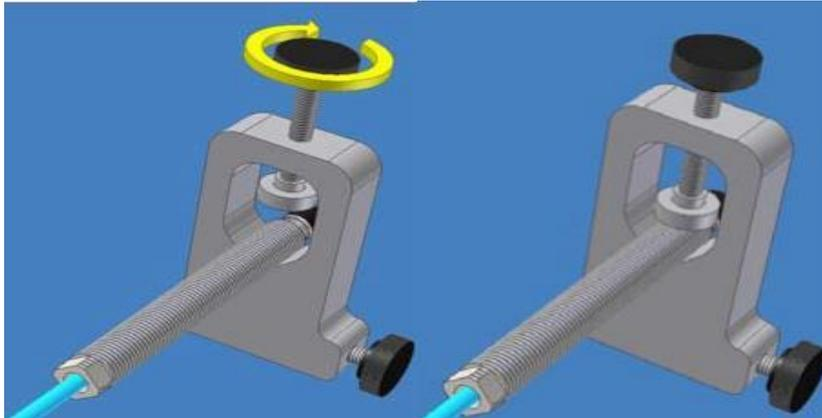

Figure 2-6: Clamp Probe by Rotating Thumbscrew
4. Tighten the V Probe Mount Probe-Clamp tip (see Figure 2-6) until the clamp holds the probe snugly in place.